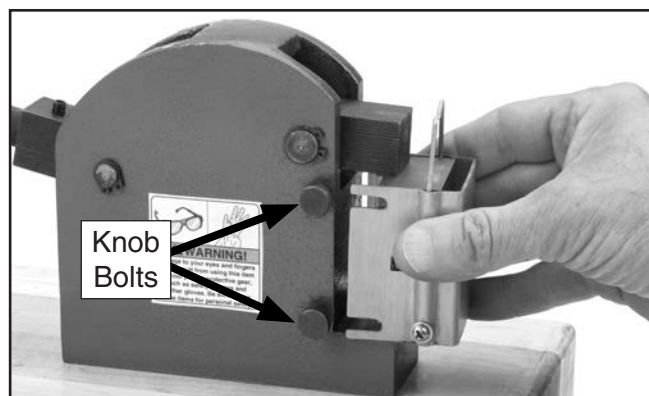

Figure 3. Removing die retainer.
1. Raise handle, loosen (4) knob bolts, unclip die retainer from pressure arm, and slide die assembly away from casting (see **Figure 3**).